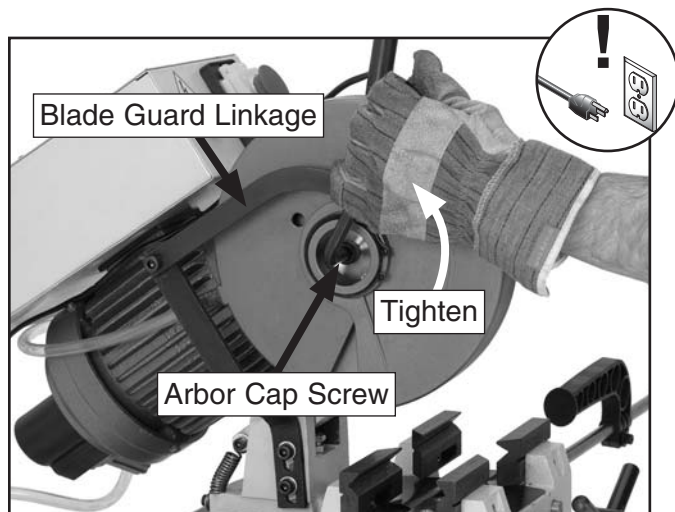

Figure 26. Tightening blade.
7. Place the blade and flange over the arbor, then thread-in and tighten the left-hand thread arbor cap screw (**Figure 26**).